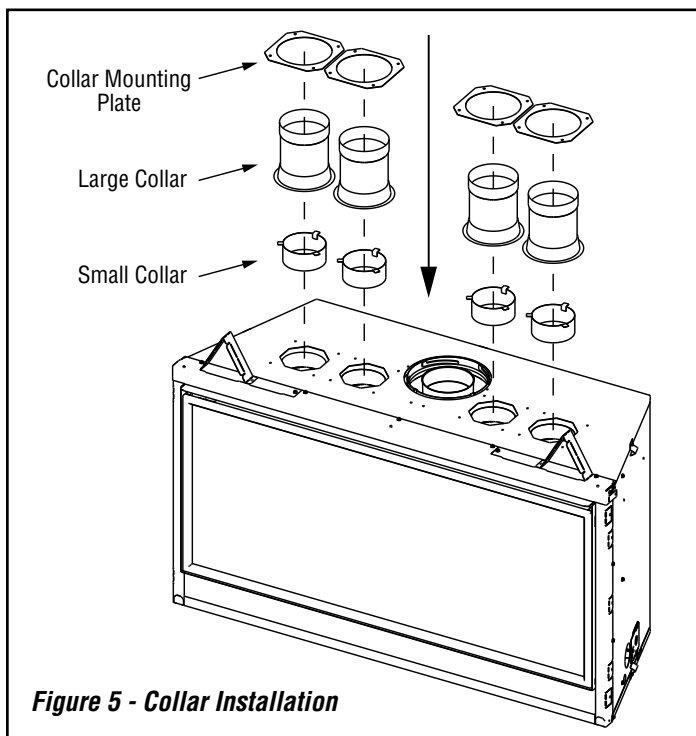

Figure 5 - Collar Installation
5. Insert four small collars into knockout openings in fireplace top with tabs up (**Figure 5**). Tabs should be resting on fireplace top.
6. Place four large collars with flange down on fireplace top aligned with small collars (**Figure 5**).
7. Place four collar mounting plates over large collars and attach with screws provided (**Figure 5**).